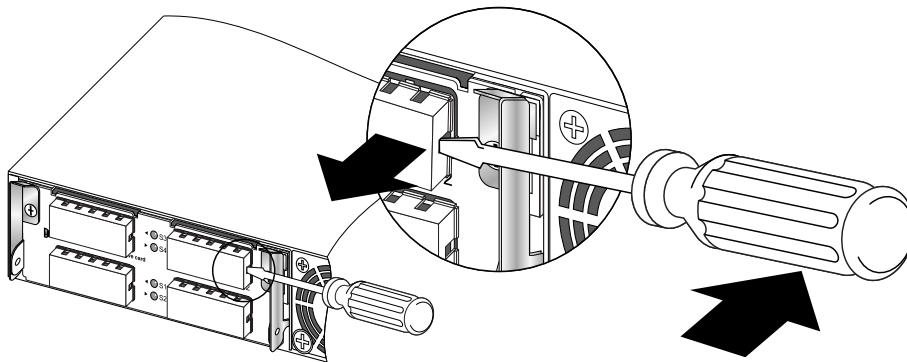

Figure 231: Removing a Connector Cover
1. On the side of the connector nearest to the inserter/ejector lever, find the notch between the two end tabs on the cover (see Figure 231).